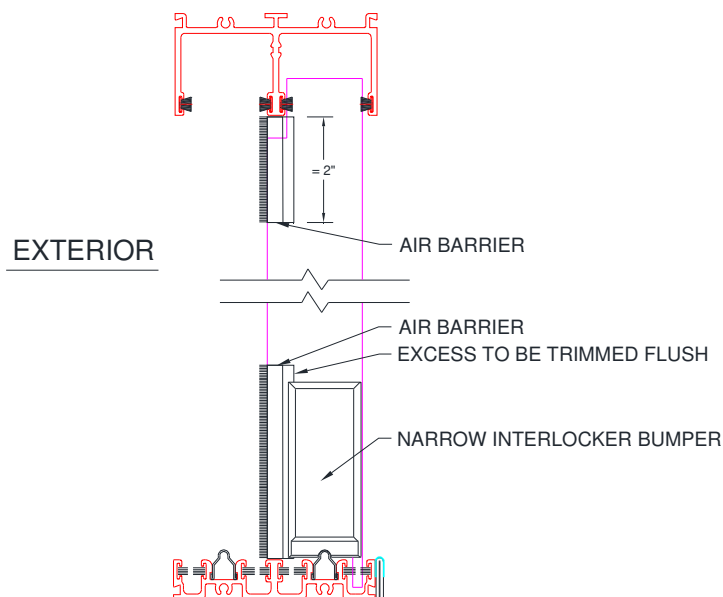

Figure D2:
4. Trim the measured amount from the bottom of the air barrier so the cut edge is concealed after installation (Figure D2).
6. The air barrier may also be cut to fit and installed at the top of the interlocker (Figure D2). Do not cut the air barrier to less than 2 inches in length, as the adhesive backing will not provide adequate adhesion if shortened beyond this length.